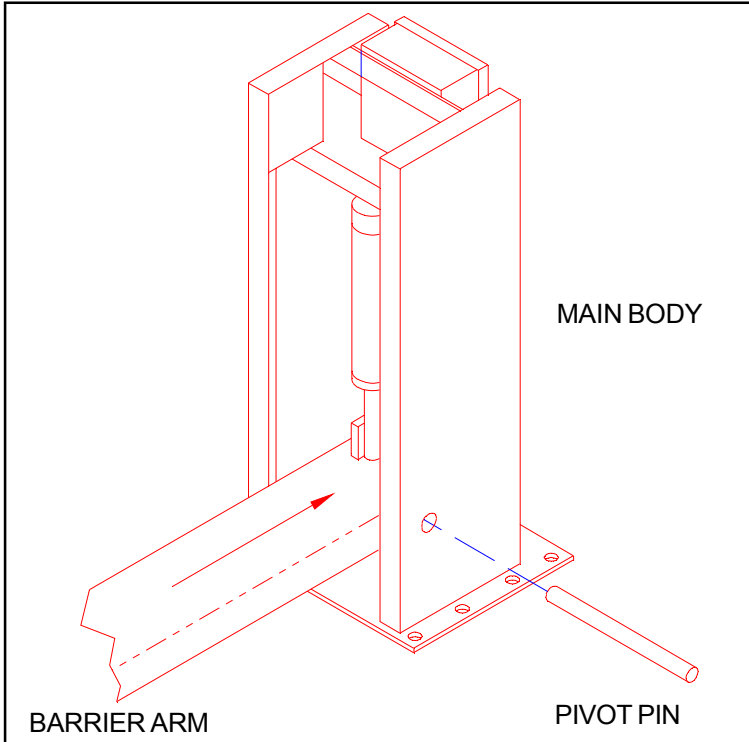

Figure 1
4. Pre assemble barrier arm into main body with pivot pin provided (see figure 1). Do not, at this time, hook up lift cylinder rod to barrier arm. Note: Removal of rear sheet metal cover from main body may help the assembly process. Lower pin cover plate and tighten screw to prevent pin movement.